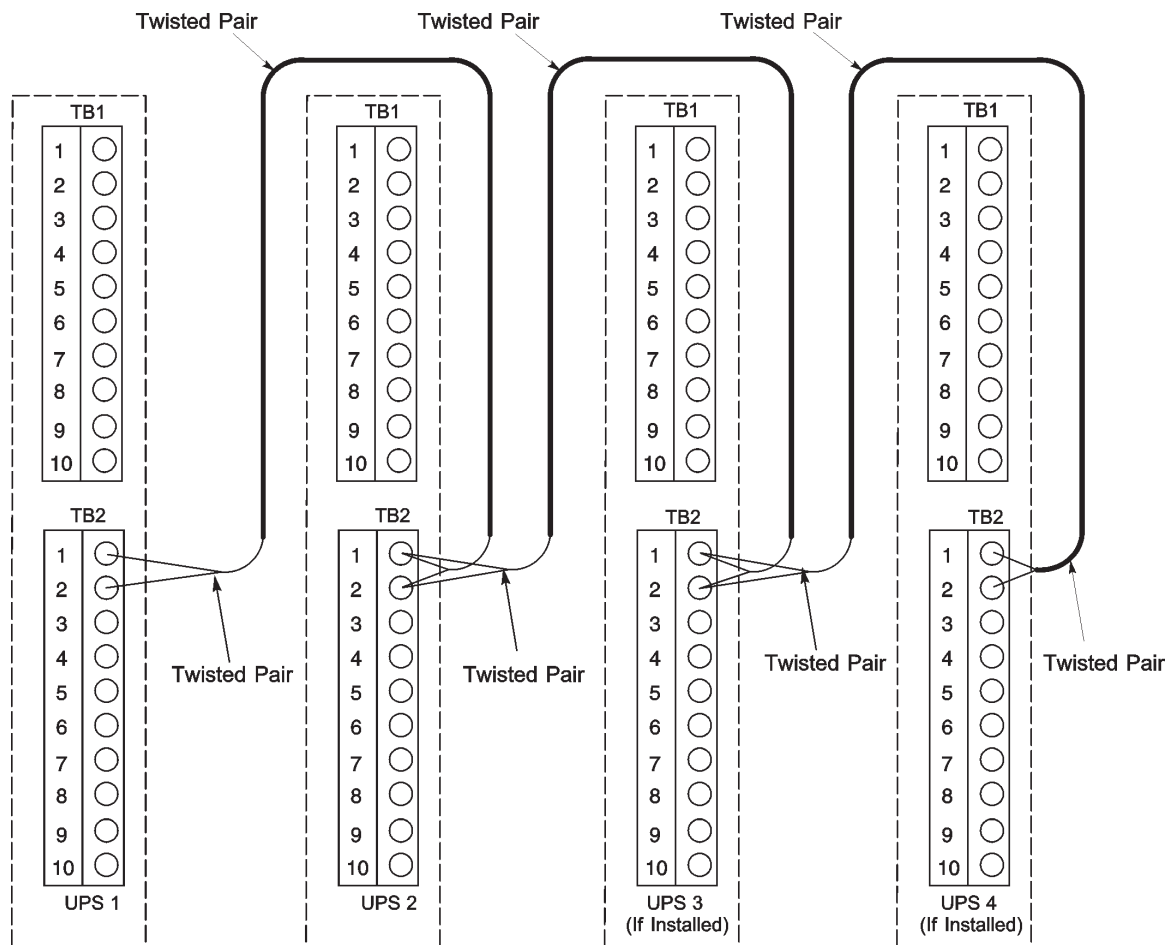

Figure 5-5. Distributed bypass Pull-Chain wiring without MOB
9. Route and install distributed bypass system pull-chain wiring between the UPS cabinets. See Figure 5-5 and Table 5-3 on page 52 for wiring information.